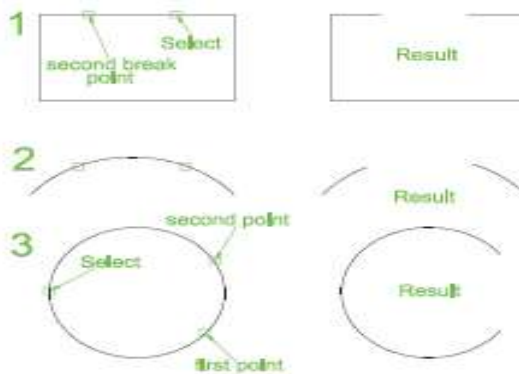

Fig. 5.36 Examples – Break
Examples – **Break** (Fig. 5.36)
1. Construct the rectangle, arc and circle (Fig. 5.36).
The results are shown in Fig. 5.36 .